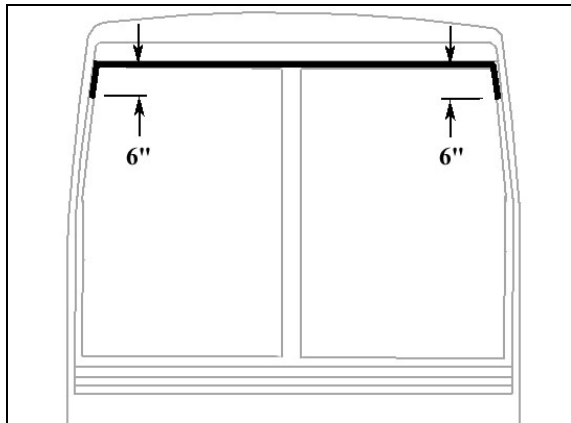

FIGURE 18: APPLICATION OF SIKA 221 BLACK
- Apply Sika 221 black between fiberglass and rubber extrusion (Figure 18).